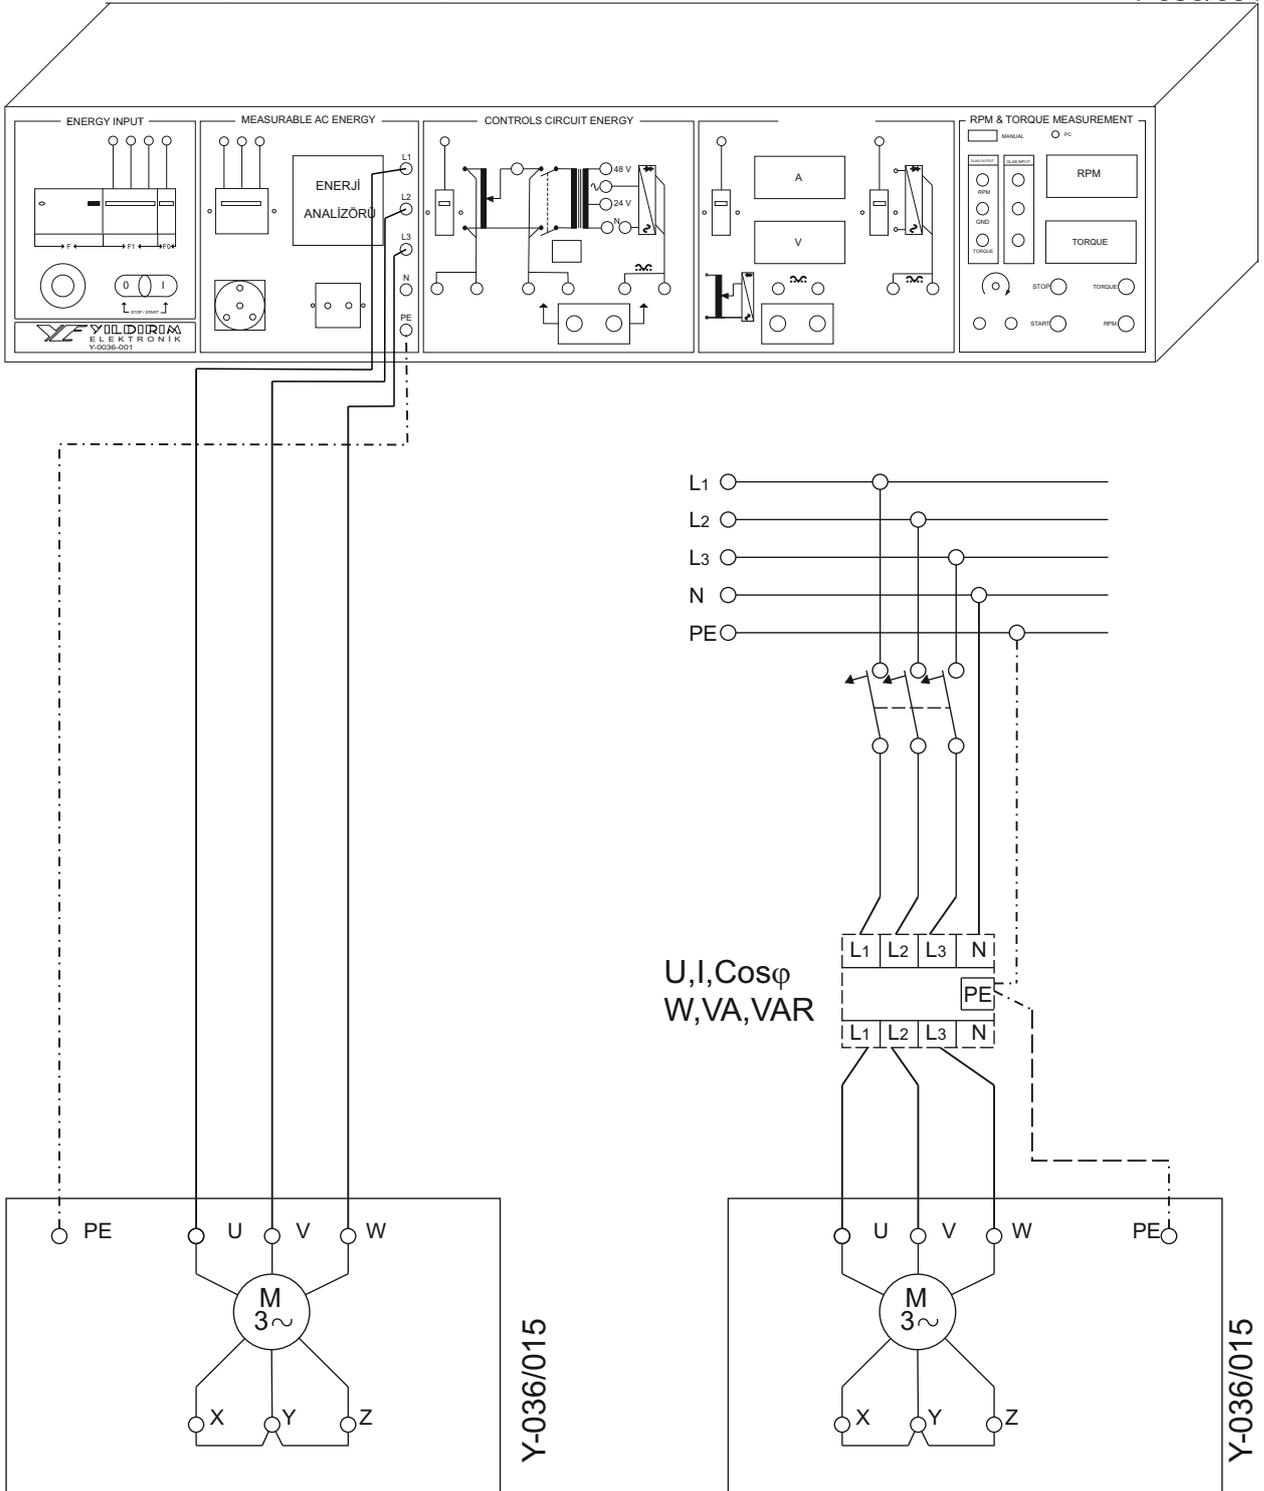

Figure 32.1: The connection diagram for the no-load operation of the 3-phase asynchronous motor.
- Connect the circuit shown in the figure: 32.1.